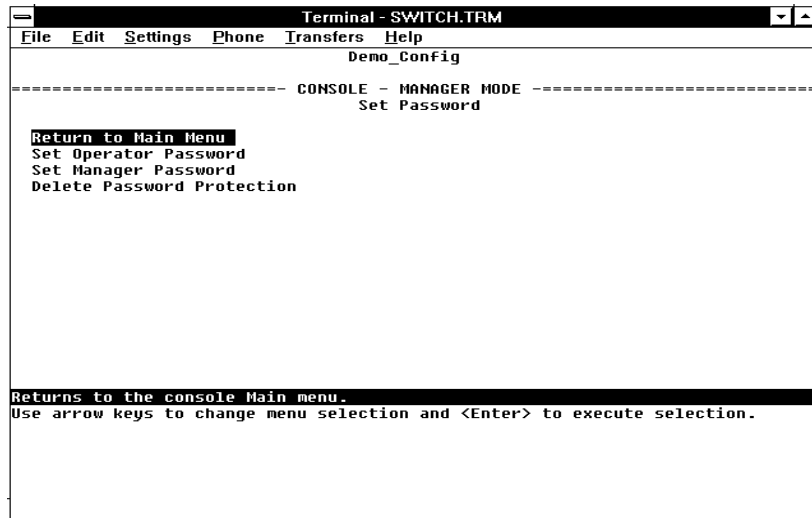

Figure 2-3. The Set Password Screen
2. From the Main menu select Set Passwords. You will then see the screen shown in figure 2-3.